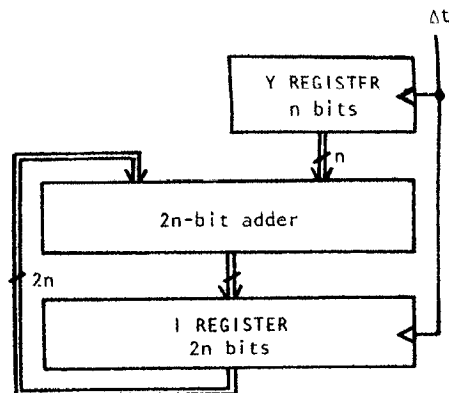
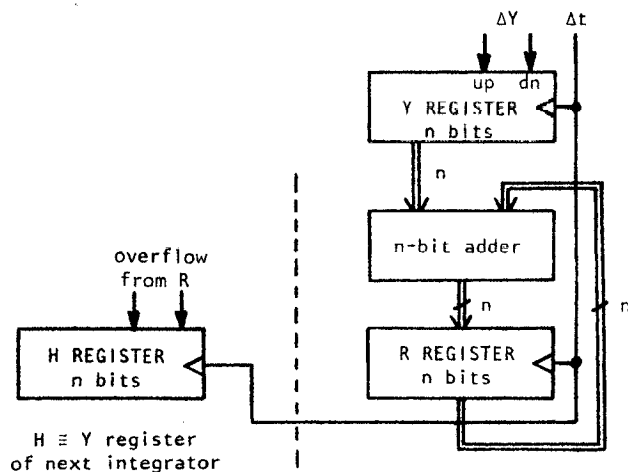

FIGURE E1-2 Digital integrator.
FIGURE E1-3 Incremental digital integrator.
The iteration period Δt is the smallest quantum of time and hence it is represented as one unit digitally. Thus the area of each rectangle is numerically equal to its height. Keeping this in mind we can now describe a digital integrator. As shown in Figure E1-2, the device has two registers Y and I that contain signed quantities. The Y register holds the current value of the function $Y(t)$, and the I register accumulates the integral. During each iteration period, two operations take place.
We see that the input of a digital integrator is in an incremental form. For integrators to be interconnected to solve differential equations, the outputs must also have an incremental form. Consider the integrator of Figure E1-2 as re-drawn in Figure E1-3. The Y register has n bits and the I register is divided into an n -bit low order part R and an n -bit high order part H that contains the most significant bits and sign of the accumulated integral. Each time the Y register is added to R, the high order part can change by at most +1 or -1. Hence the overflow from the R register is the incremental output of the integrator. It indicates how much the accumulated integral changes at each step. Instead of providing an H register in each integrator, the incremental output is accumulated in the Y register of a succeeding integrator when integrators are interconnected to solve equations.
In this project you will build digital integrators that operate as described above. A single digital integrator consists of the circuitry in the right half of Figure E1-3 - an n -bit up/down counter, n -bit adder, and n -bit register - plus a small amount of combinational circuitry to generate the incremental output.
That this table describes the correct behavior should be verified by considering the performance of the integrator of Figure E1-2 and extending the sign bit of Y to make it a two's-complement number with $2n$ bits.
V. Build an integrator that replaces the adders and registers of Figure E1-3 with a 6-bit binary rate multiplier. (Leave the existing integrator intact.) Repeat Assignments II and IV with the BRM-based integrator and compare and comment on the results.